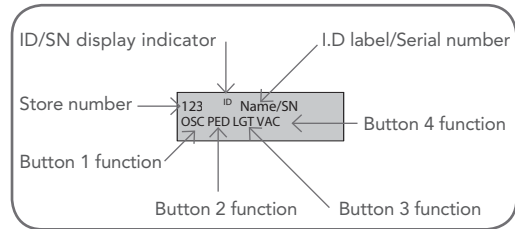

Fig 13.1
- Reprofiling is a simplified way of re-learning the travel characteristic of a previously setup Limit Switch travel installation. Re-profiling can be used when the travel characteristics of the door change due to mechanical adjustments etc. To initiate a re-profile, simply locate "MENU 10.2 Reprofile Travel", press SET and follow the prompts. The door will start to move and recalculate force margins. The door can move between the open and close limit positions up to two (2) times (depending on the position of the door and the power up condition).
The GDO-10V3L2 can store up to five hundred and eleven (511) transmitters in its memory. Each transmitter can be allocated an alpha-numeric ID label up to eleven (11) characters in length and each button can be assigned to one of several control functions. The settings for a transmitter are represented in (Fig. 13.1). It shows the transmitter's store number, ID label or serial number and the functions assigned to each of its four buttons. To toggle between ID/SN display, press UP/DOWN with the cursor on the ID/SN indicator. The procedures below code, delete, replace, edit and copy transmitter records.